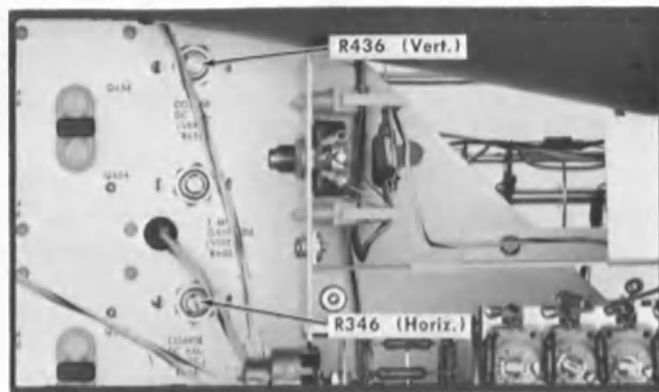

Fig. 6-10. Location of Coarse DC Balance adjustments, (left side).
g. Re-center the trace with the COARSE DC BAL. (VERT.) R436. See Fig. 6-10 for R436 location.